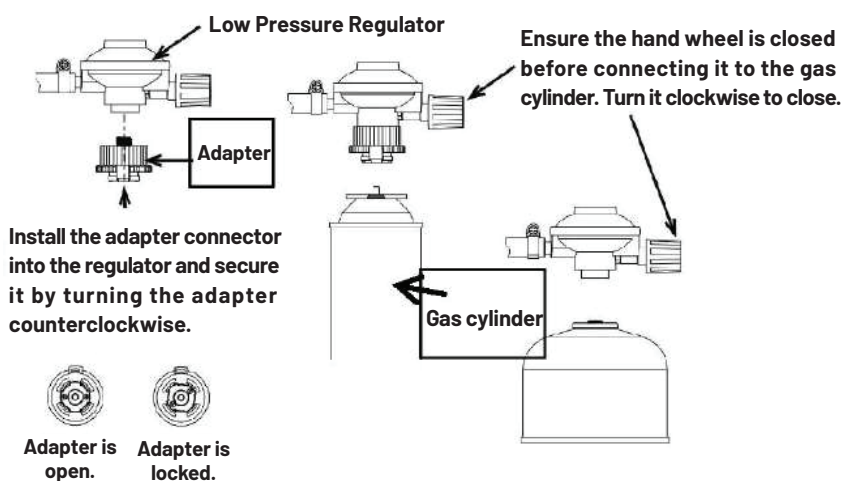
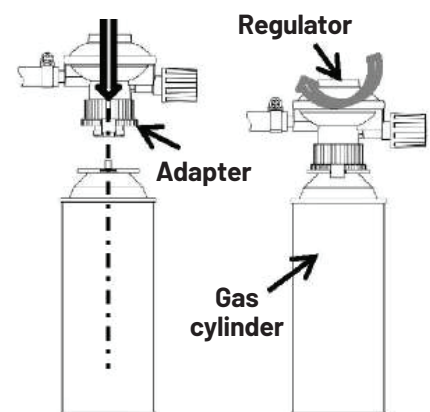

Figure 6
Figure 7
4. Mount the adapter to the Bayonet Cartridge gas cylinder as shown in Figure 6. Press it down and then turn the regulator clockwise as illustrated in Figure 7 to secure it to the gas cylinder.